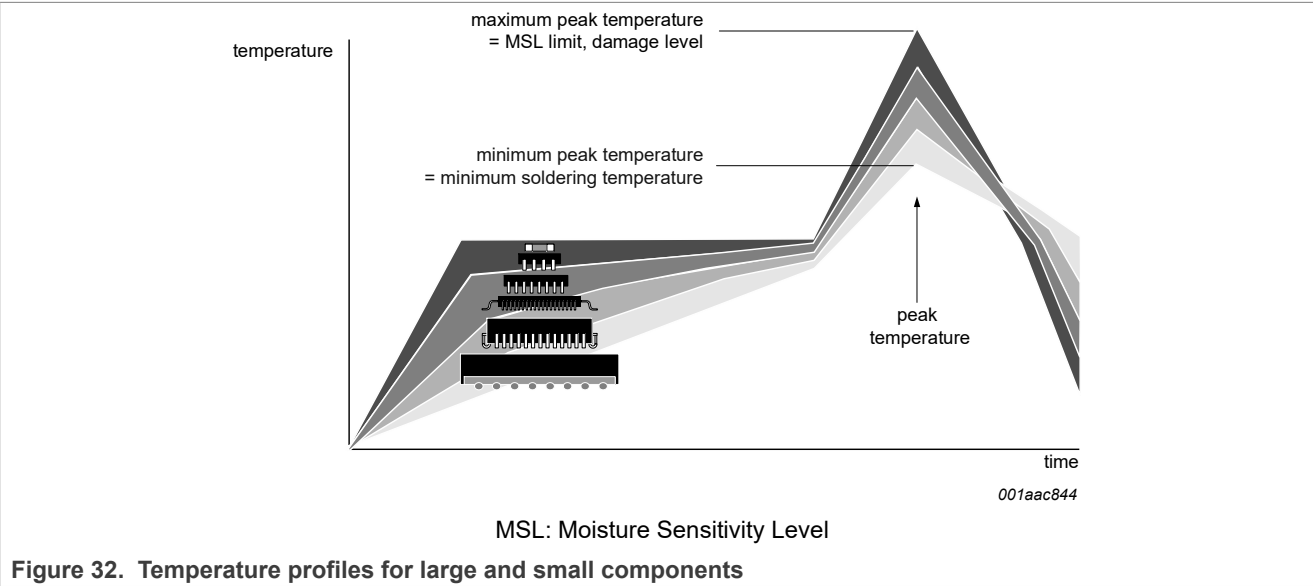

Figure 32. Temperature profiles for large and small components
- Lead-free versus SnPb soldering; note that a lead-free reflow process usually leads to higher minimum peak temperatures (see Figure 32) than a SnPb process, thus reducing the process window
Studies have shown that small packages reach higher temperatures during reflow soldering, see Figure 32.